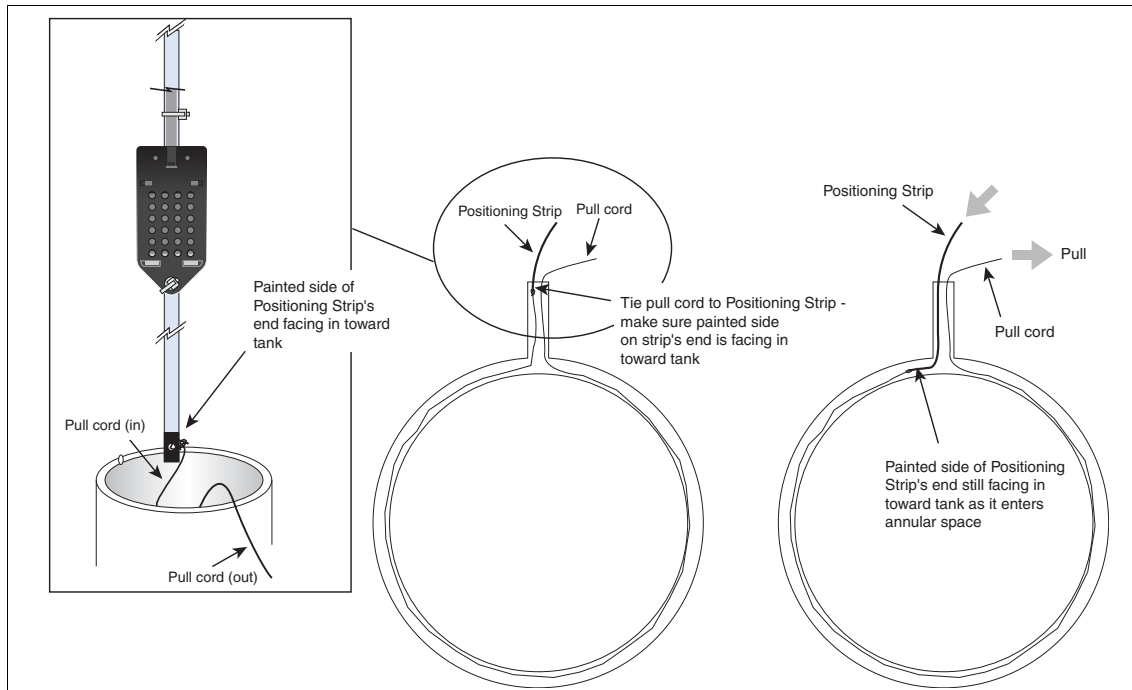

Figure 4.
2. Tie the tank pull cord to the end of the Calibrated Sensor Positioning Strip which you marked with tape above as identifying the 'direction of pull' end. As you pull the Calibrated Sensor Positioning Strip into the annulus, make sure the painted side of the strip is facing in towards the tank (see Figure 4).